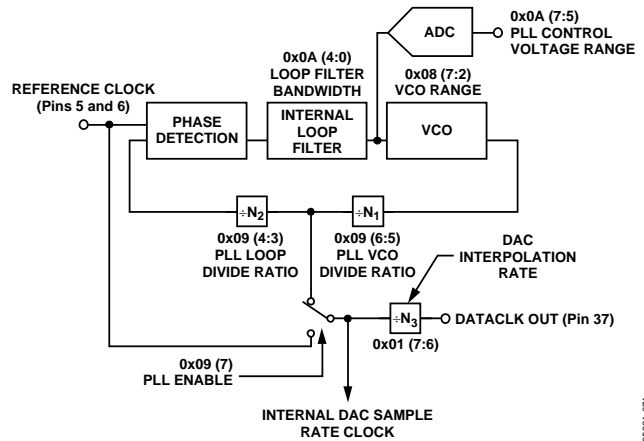

Figure 71. Internal Clock Architecture
The internal clock architecture is shown in Figure 71. The reference clock is the differential clock at Pins 5 and 6. This clock input can be run differentially or singled-ended by driving Pin 5 with a clock signal and biasing Pin 6 to the midswing point of the signal at Pin 5. The clock architecture can be run in the following configurations:
1. PLL Enabled (Reg. 0x09, Bit 7 = 1). The PLL enable switch shown in Figure 71 is connected to the junction of the N1 dividers (PLL VCO divide ratio) and N2 dividers (PLL loop divide ratio). Divider N3 determines the interpolation rate.
2. PLL Disabled (Reg. 0x09, Bit 7 = 0). The PLL enable switch shown in Figure 71 is connected to the reference clock input. The differential reference clock input is the same as the DAC output sample rate. N3 determines the interpolation rate.